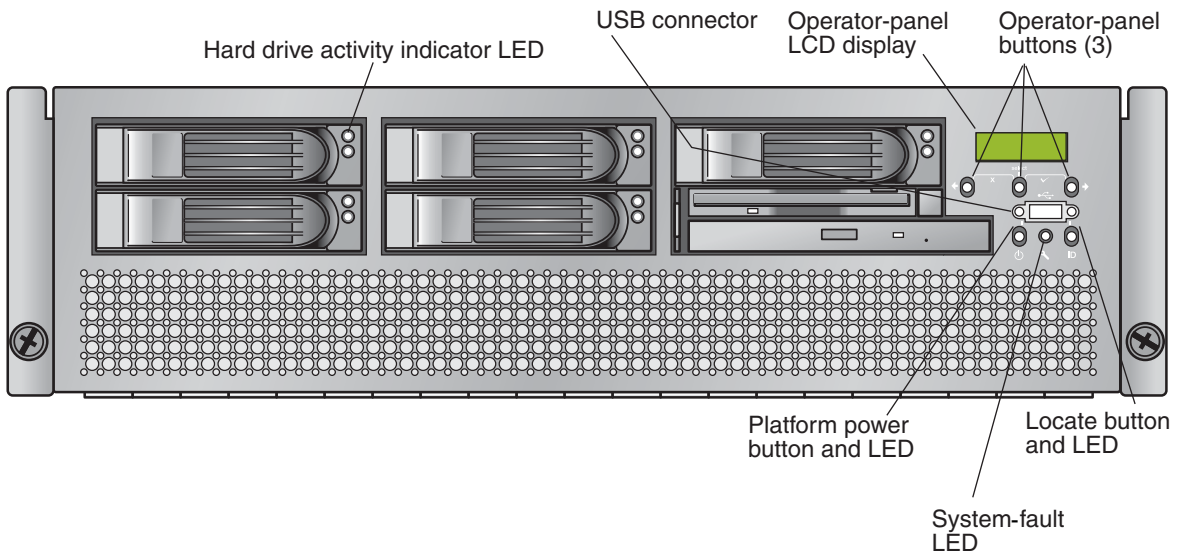
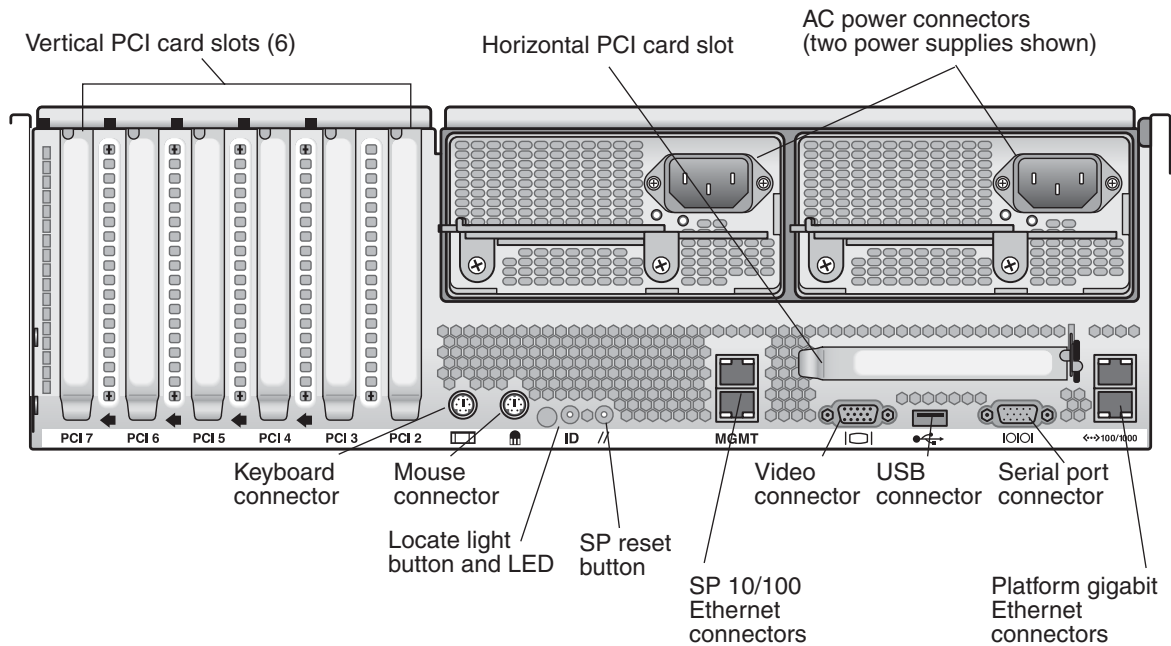

FIGURE 1-4 Sun Fire V40z Front Panel
FIGURE 1-5 Sun Fire V40z Back Panel
FIGURE 1-4 shows the front panel of the Sun Fire V40z server.
FIGURE 1-5 shows the back panel of the Sun Fire V40z server:
- FIGURE 1-4 shows the operator-panel location on the Sun Fire V40z front panel.
- Refer to FIGURE 1-4 and FIGURE 1-5 for the locations of these LEDs on the Sun Fire V40z server.